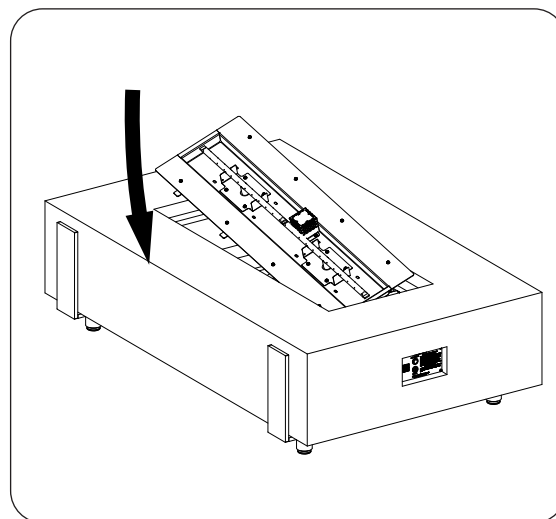

Fig. 25-2 Lower burner
2. Carefully lower the burner into the pit housing (see Fig. 25-2).